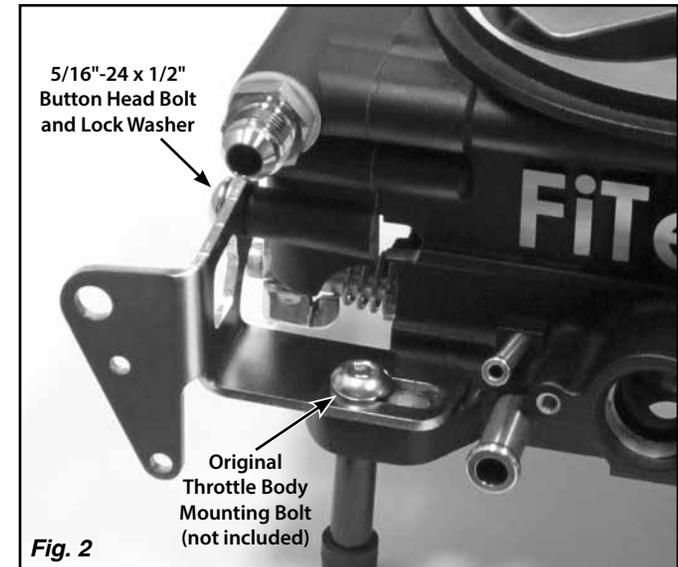
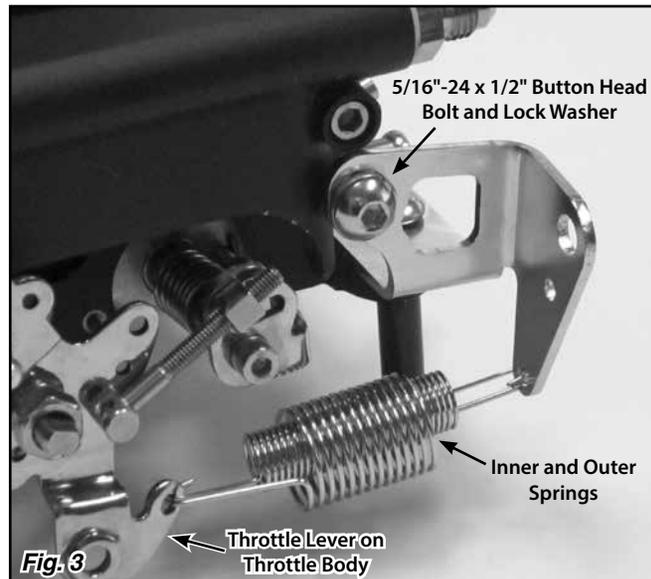

Fig. 2
Fig. 3
Step 1: Remove the throttle body mounting bolt from the driver side rear corner of the throttle body, and position the Lokar Cable Bracket as shown in **Fig. 2**. Loosely re-install the original throttle body mounting bolt.
Step 2: Install the provided 5/16"-24 x 1/2" button head bolt with the lock washer through the Cable Bracket and into the driver side of the throttle body, and tighten the button head bolt. **Fig. 2** and **Fig. 3**
Step 4: Connect the inner and outer springs to the small hole in the throttle lever, and to the bottom hole in the Cable Bracket. **Fig. 3**